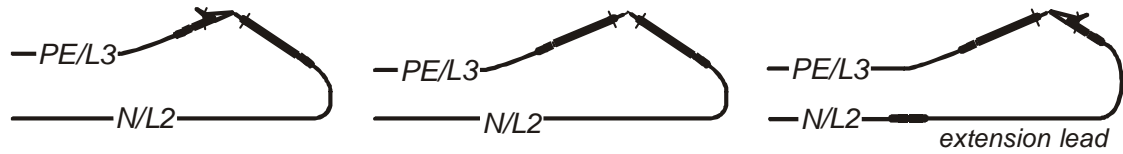

Figure 5.11: Shorted test leads-examples for N-PE
- ❑ **Connect** test cable to the instrument and short N/PE or L/PE terminals (see figure 5.11).